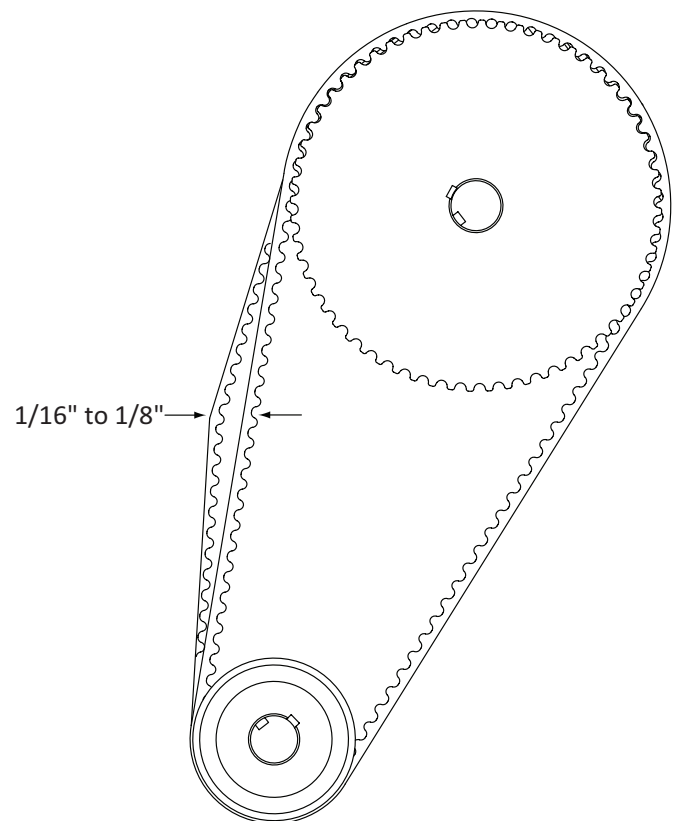

Figure 83. Drive Belt Tension
2. To access the 8Ah batteries and disconnect its wires, cut the two black wire ties and slide the 8Ah batteries through the access window. See Figure 83. Another option is to remove the four screws that hold the control box to the chassis.
3. Disconnect the black, blue, and red wires as you slide the batteries through the access window. See Figure 83.